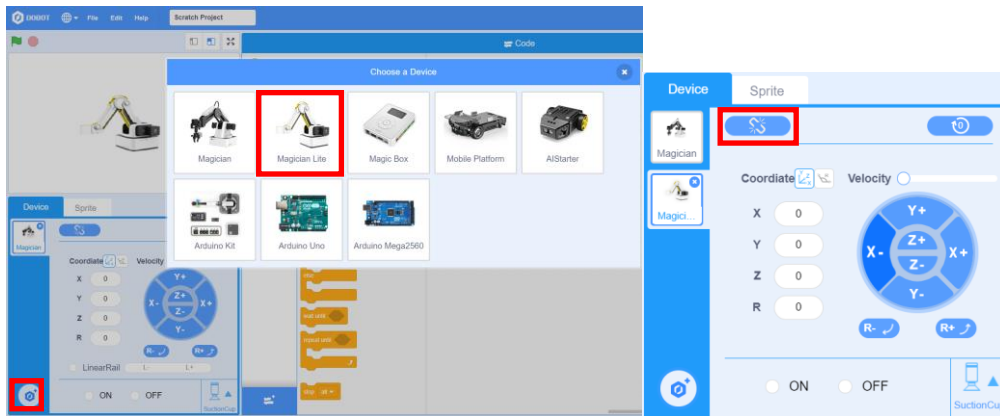

Figure 2.2 Adding and connecting to the device
Step 2: Add the device and connection in the software interface. Add Magician Lite to the device list area at the bottom left of the DobotScratch interface, and click the connection button in the control area to connect to Magician Lite, as shown in Figure 2.2.